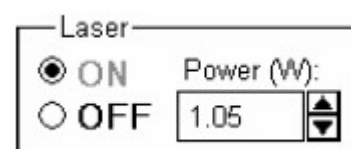

Figure 4. Raman excitation control tab.
- Once happy with the rough position, close the sample compartment cover and **turn ON the** (Raman excitation) **laser** by selecting ON in the Raman source area of the 'Bench' tab (Figure 4)